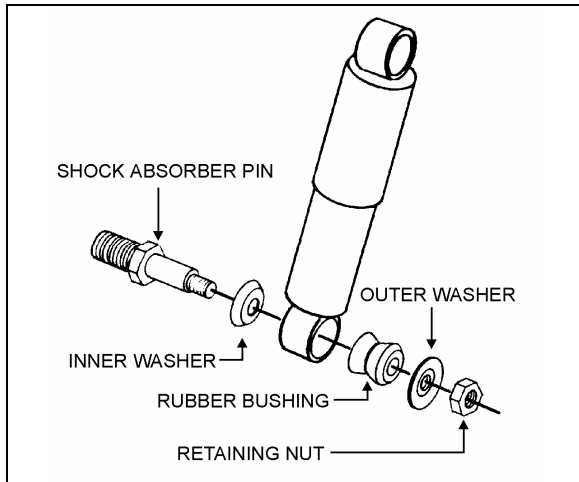

FIGURE 5: SHOCK ABSORBER
1. Remove nuts and washers from shock absorbers on upper and lower mounting pins, taking care to identify the inner and outer washers to ease reinstallation. Refer to figure 5 for details.